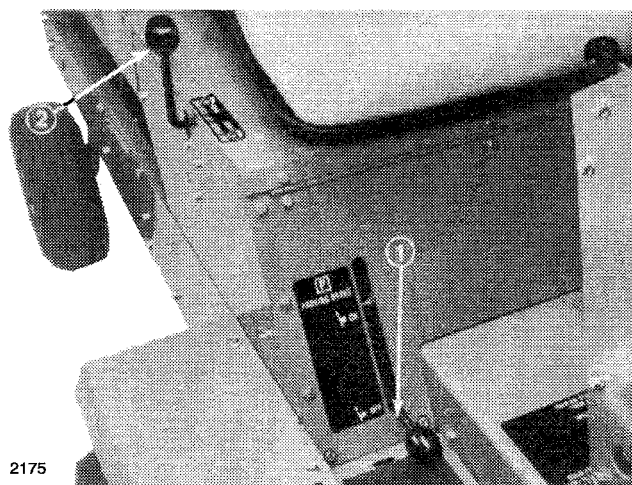

Figure 10
2. Lift the parking brake lever up (Fig. 10) to apply the parking brake.
1. Move the parking brake lever down (Fig. 10) to release the parking brake.
The implement lift lever (Fig. 10) is used to raise and lower various attachments.
2. Pull implement lift lever (Fig. 10) rearward to raise attachment to the desired height.
2. Push implement lift lever (Fig. 10) forward to lower attachment.